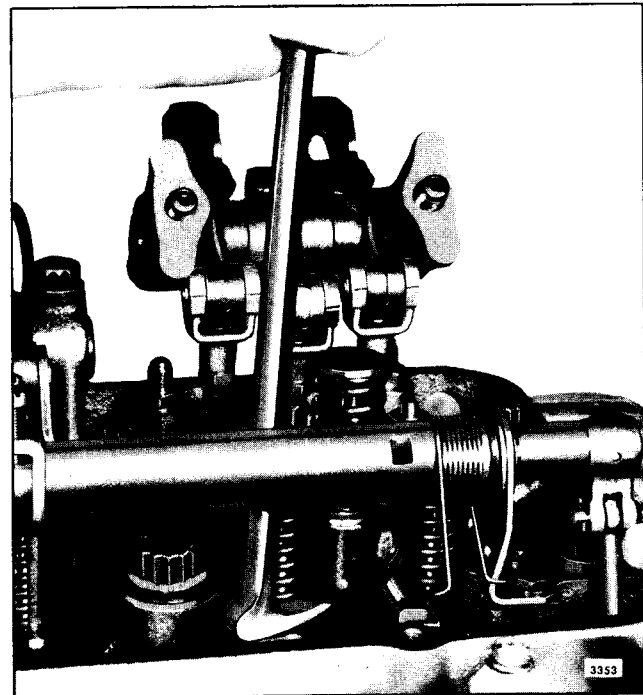

Fig. 7 - Removing Injector from Cylinder Head
swing the rocker arms away from the injector and valves (Fig. 7).
7. Lift the injector from its seat in the cylinder head (Fig. 7).